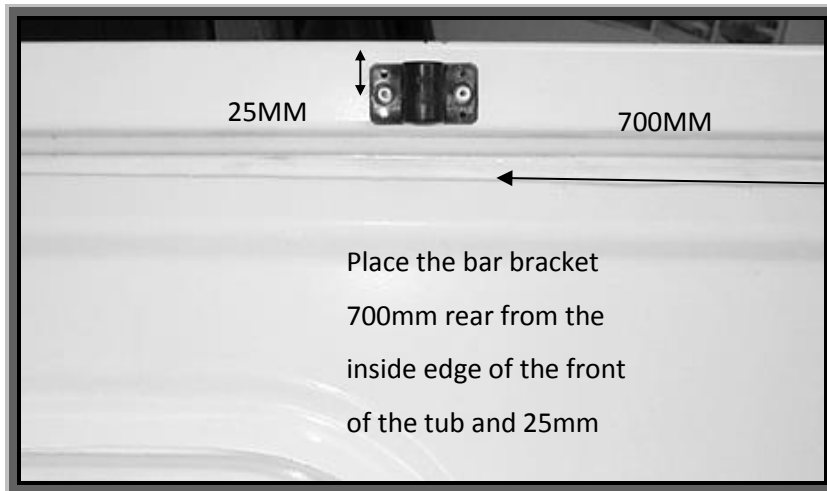

Figure 2
5. Mark a position 700mm from the inside edge of the front face of tub towards the rear and 25mm down from the top lip of the tub. Centrally locate the bar bracket over this position and drill and rivet bracket into place. **See Figure 2.** Repeat for other side of tub. Fit tonneau support bar to bar brackets.